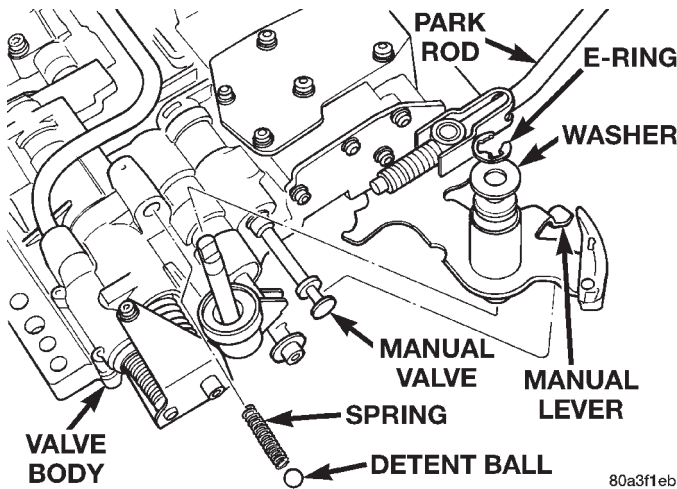

Fig. 46 Manual And Throttle Levers
(5) Remove manual shaft E-clip, washer, and seal (Fig. 46).
(6) Pull manual shaft and park rod assembly upward out of valve body and off throttle lever (Fig. 46).
(8) Remove Retainer Tool 6583. Then remove and retain detent ball and spring (Fig. 46).
(9) Remove throttle lever (Fig. 46).